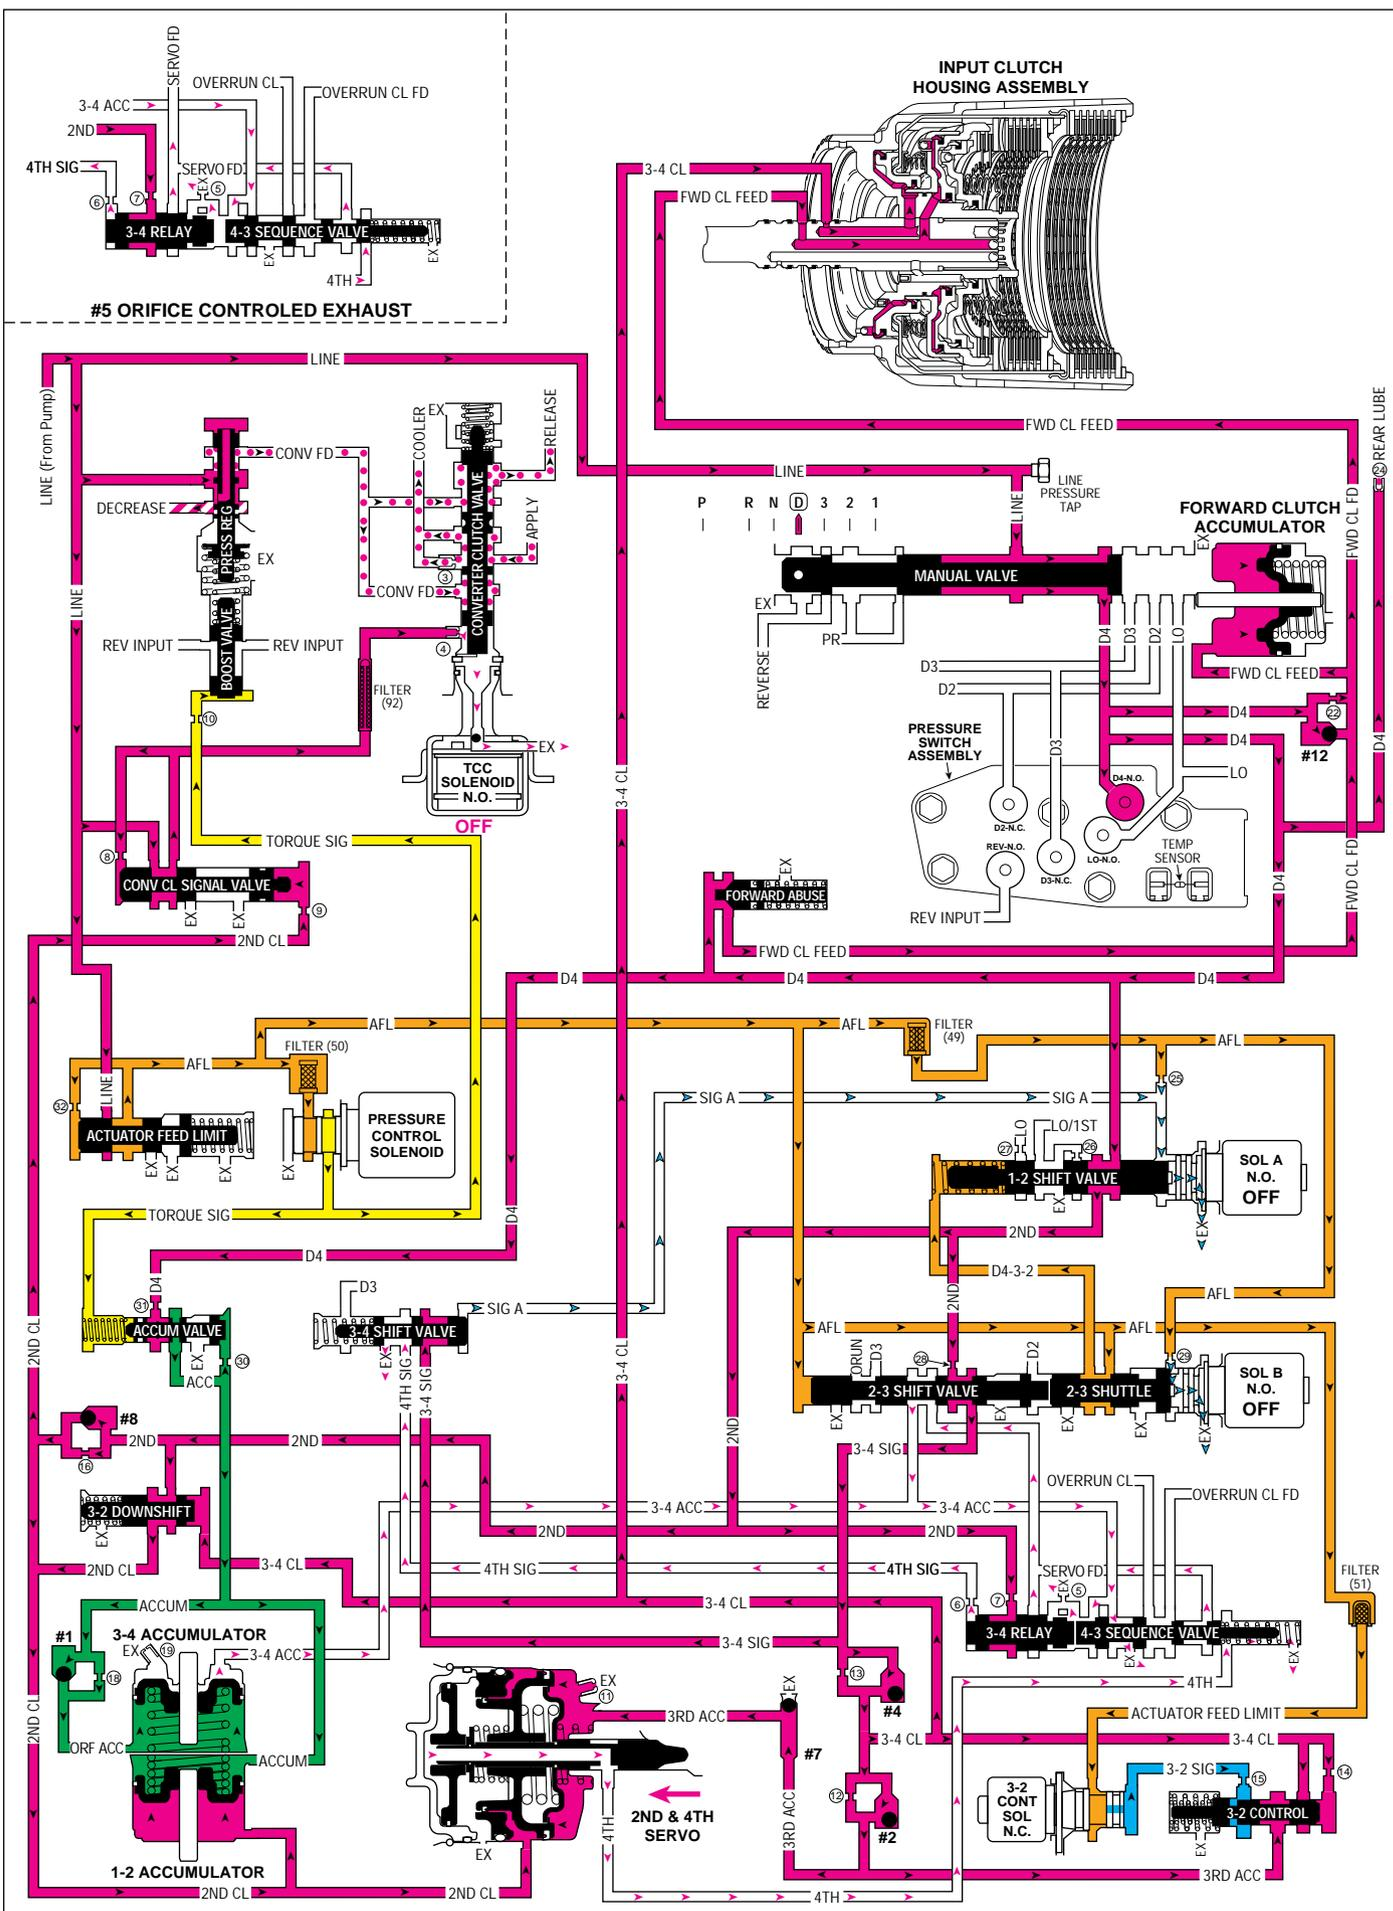

Figure 55
- 4th signal fluid exhausts from the 3-4 relay valve and 3-4 accumulator fluid moves the 3-4 relay into the Third gear position. This blocks 2nd fluid from feeding the servo feed fluid circuit and opens the 3-4 accumulator fluid circuit to an orificed exhaust (#5). Because the exhaust is orificed, 3-4 accumulator fluid pressure momentarily holds the 4-3 sequence valve against spring force (see inset in Figure 55).
- When exhausting 3-4 accumulator fluid pressure decreases sufficiently, spring force will move the 4-3 sequence valve into the Third gear position (as shown in Figure 55). This opens 3-4 accumulator fluid to a quick exhaust past the 4-3 sequence valve. This also opens the 4th fluid circuit completely to exhaust past the 4-3 sequence valve.